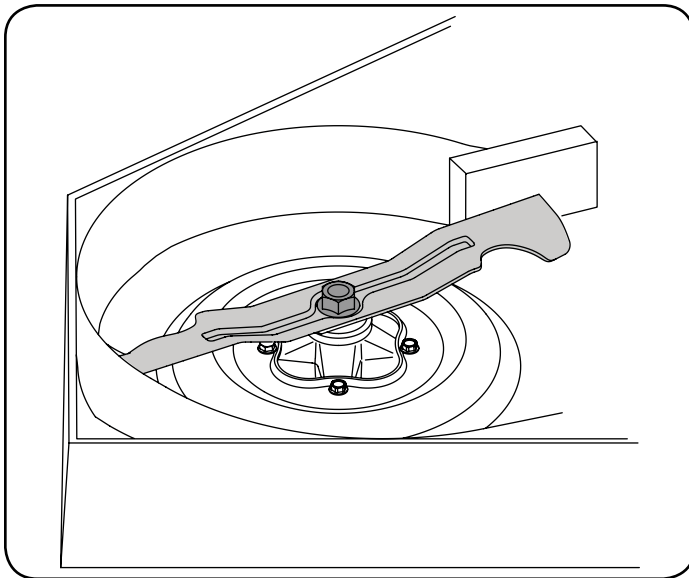

Figure 43
2. Use a 1-1/8" wrench to hold the hex nut on top of the spindle assembly when loosening the hex nut securing the blade. A block of wood may be placed between the deck housing and the cutting edge of the blade to help in breaking loose the hex nut securing the blade. See Figure 43.